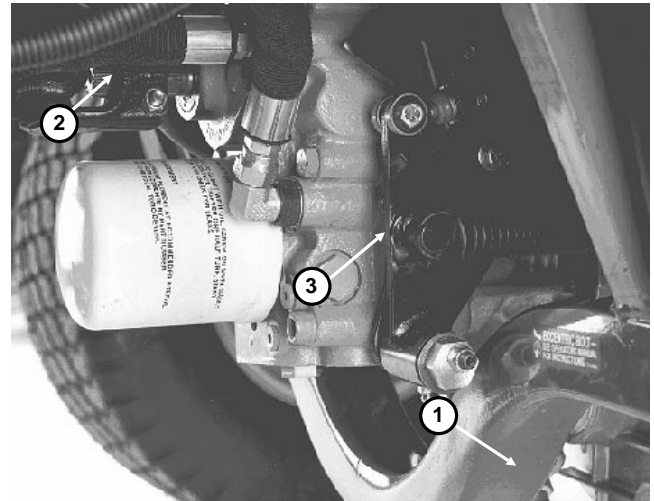

Figure 39
2. Remove the two (2) rear cutting units (see Chapter 8 - Cutting Units).
4. Put a drain pan below the transmission. Remove suction line from bottom of transmission to let oil drain out of differential (Fig. 39).
7. Disconnect drive shaft from transmission (Fig. 39).